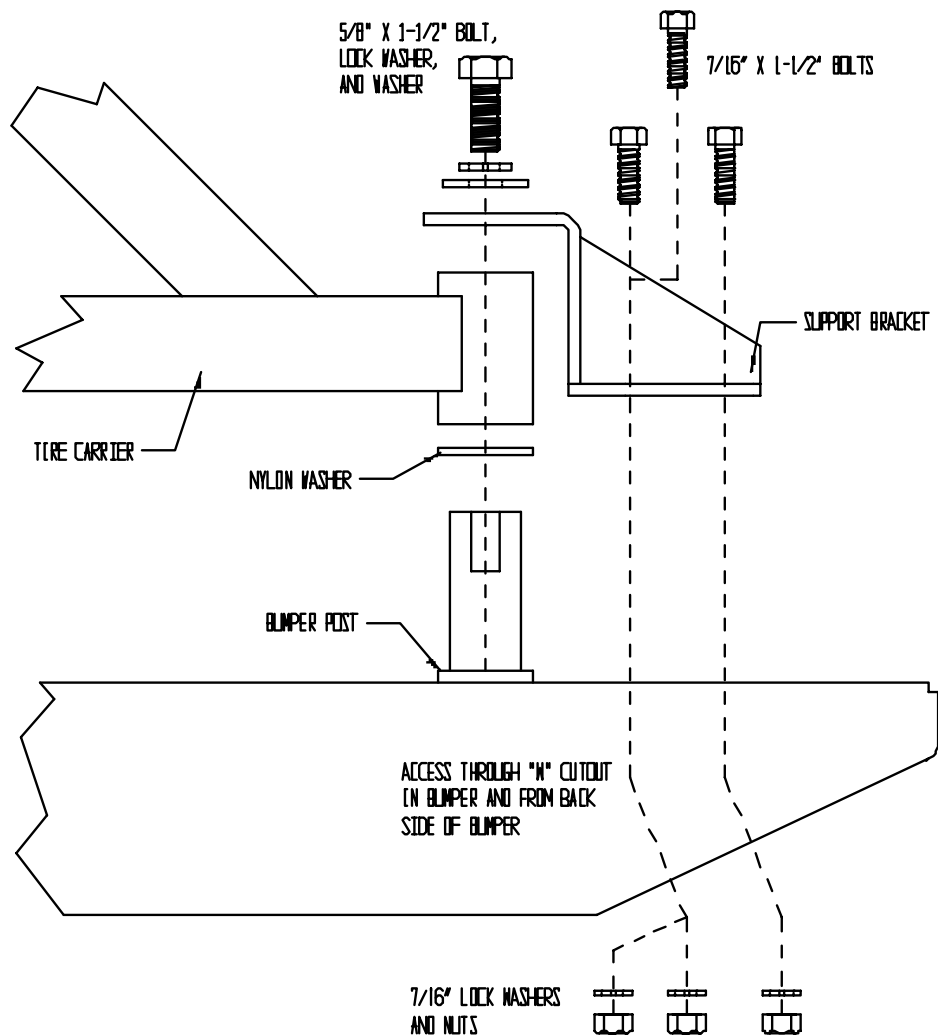

Figure 4
5. Install the tire carrier to bumper. This must be done before tightening of the eight frame bolts. **If installing on TJ model**, remove the plastic license plate mount from the vehicle, it will be trimmed slightly in the bottom corner later. **If installing on TJ and YJ models**, it is necessary to remove all of the factory rubber tailgate bumpers except the upper one on the driver's side. Place the nylon washer over the post in the bumper and slide it all the way down. Place the round tube end of the tire carrier on the post sticking up out of the passenger's side of the bumper and slide it all the way down. **See Figure 4.**
10. Install the post support bracket to the bumper. Using the supplied 5/8 x 1 1/2" bolt, lock washer, and washer, hand tighten the bracket to the post. Then install the 3 supplied 7/16 x 1 1/2" bolts and washers through the support bracket and the bumper. Install a 7/16" washer, lock washer and nut on each bolt inside the bumper. It may be necessary to use a magnet or needle nose pliers to install the nuts and washers onto the bolts. On CJ models it may be necessary to install the two bolts that are furthest forward and match drill the 3rd rear hole. This is due to the tight packaging of the bumpers ends. **See Figure 4.**